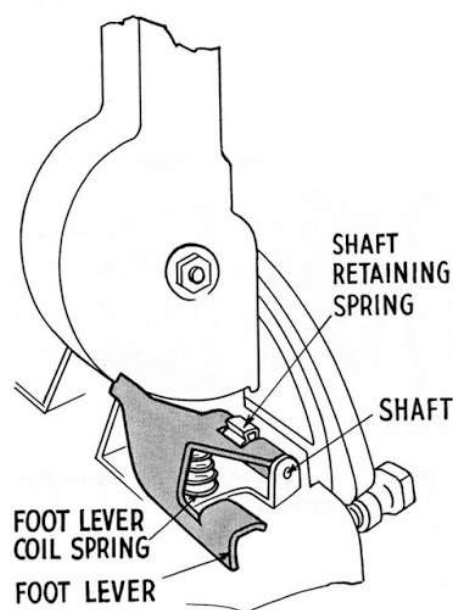

FIG. 132—Foot pedal assembly, Models 27-28-80 and 305
3. To remove the **foot pedal assembly**: Figure 132.